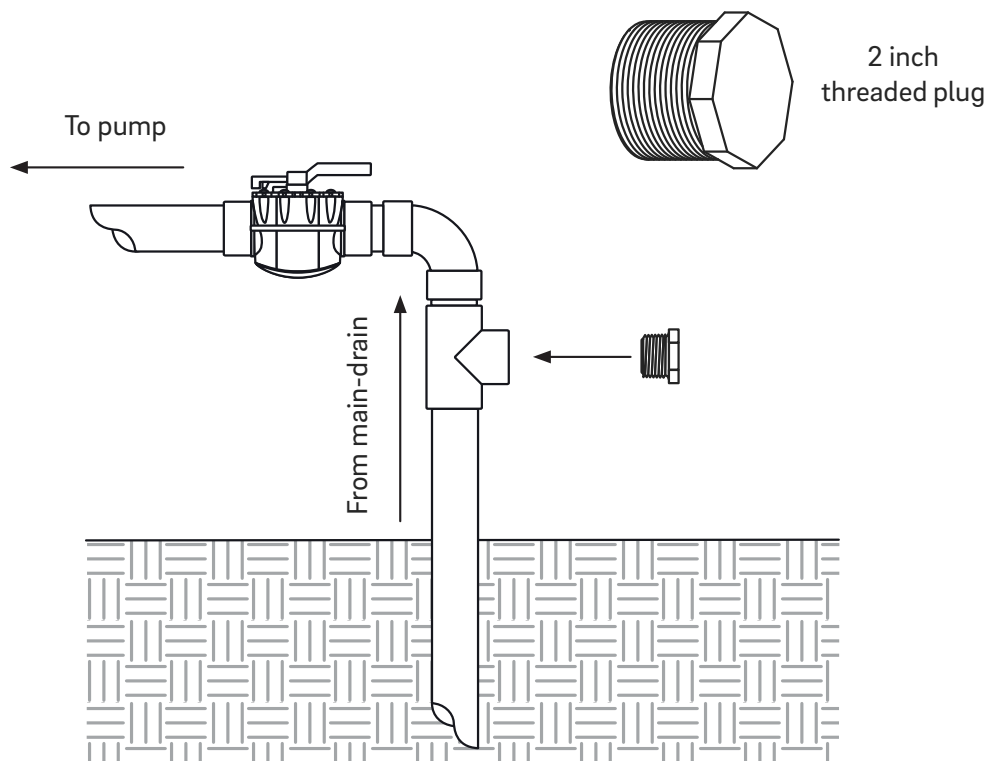
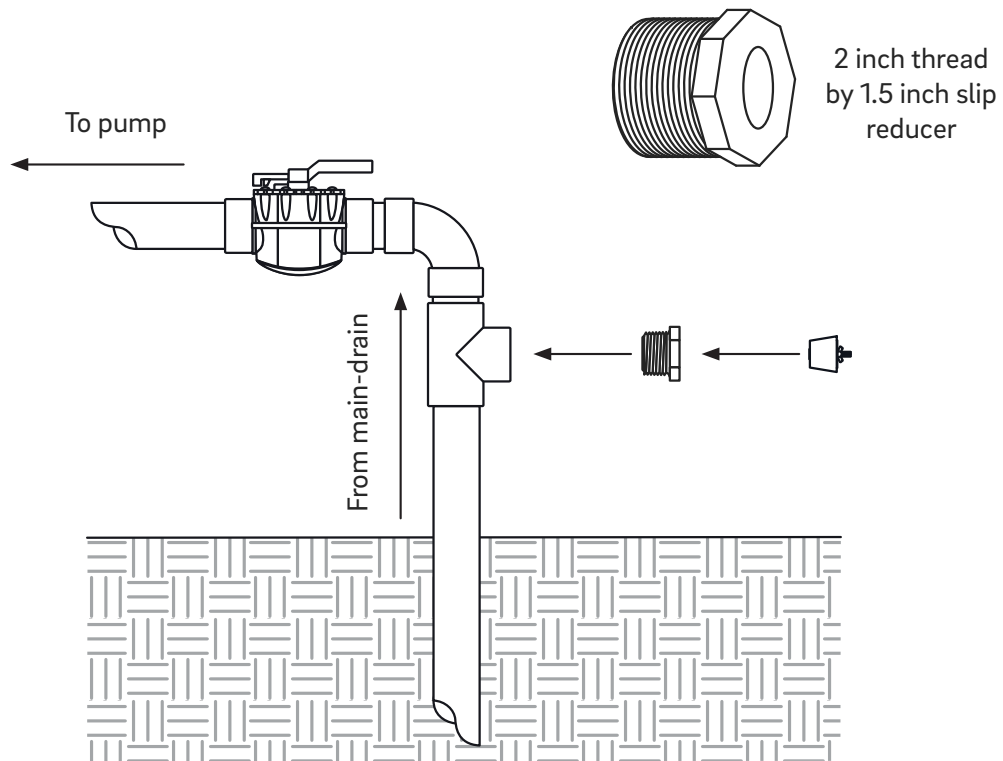

Figure 18
Figure 19
2. Between the 2-Way shut-off valve and the drain, install a Tee fitting with a 2 inch threaded branch. This will allow a 2 inch threaded plug to be installed during normal operation and replaced later during the winterization process (Figure 18).
4. Remove the 2 inch threaded plug (Figure 18) and replace it with a 2 inch thread by 1.5 inch slip reducer bushing (Figure 19).